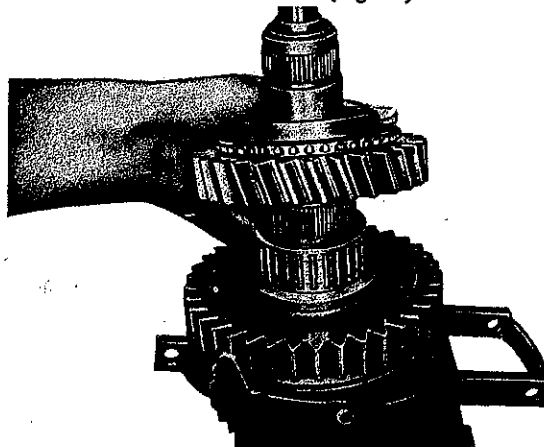

Fig. 31
11. Slide needle cage (418) and second gear wheel (417) with clutch teeth up onto main shaft (Fig. 31).